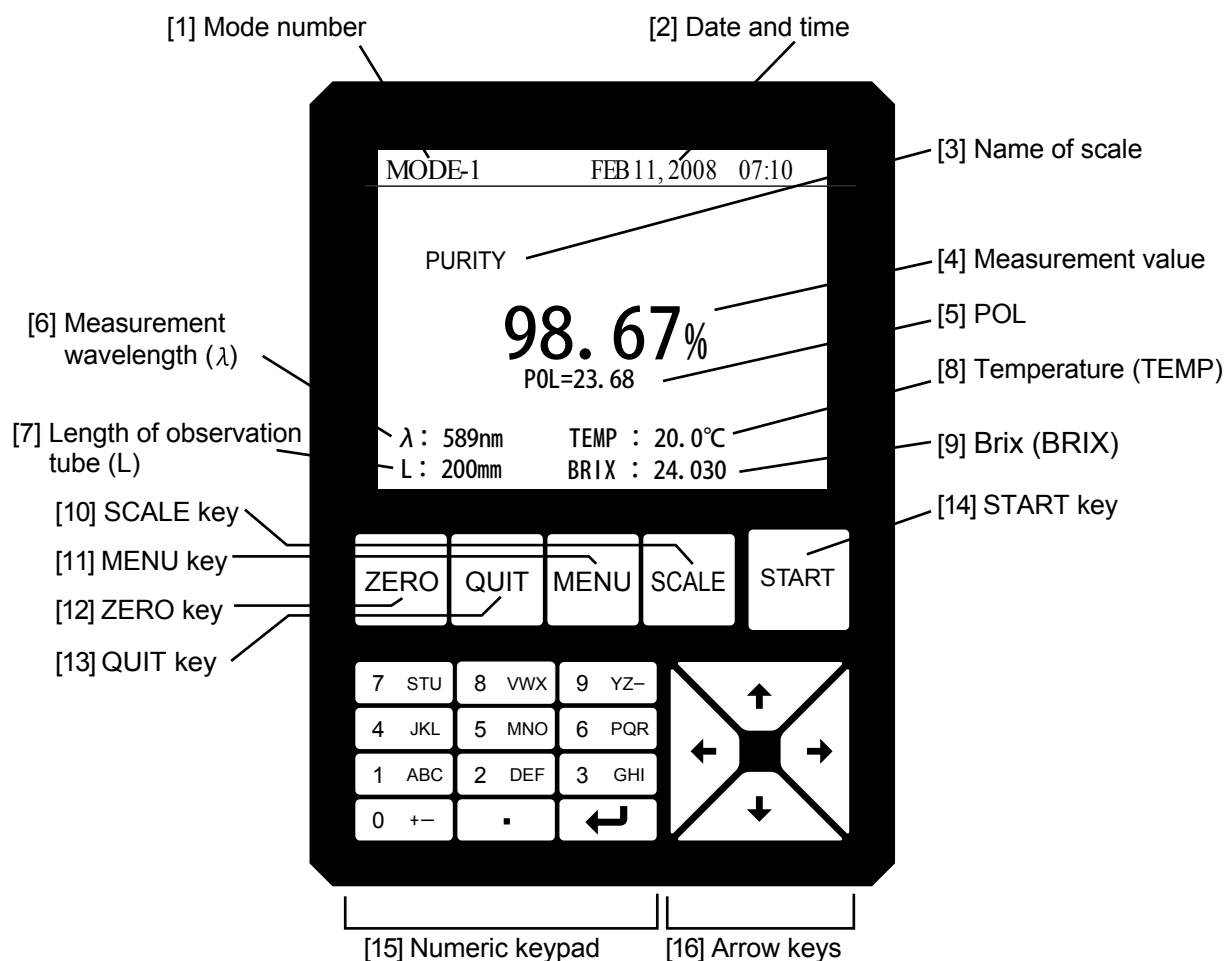

Fig.3-8
(3)-5 Display of a Measurement Value for the Purity (Fig.3-8)